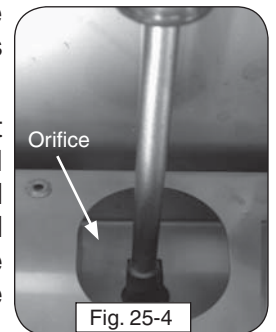

Fig. 25-4
5. Use a $\frac{3}{8}$ " hex nut driver to remove the exposed orifice (Fig. 25-4) and replace it with the correct orifice for the new gas. (See Table 1 at the beginning of this document for orifice sizes.)